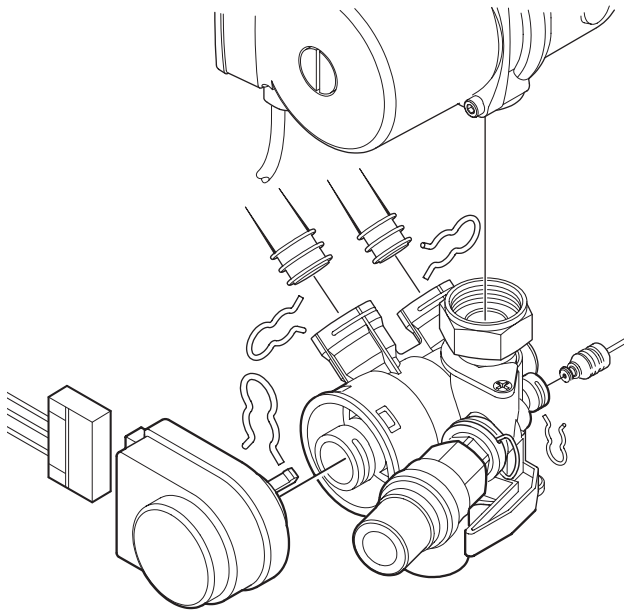

Fig. 64
- Unplug connector from 3-way valve motor. Refer to fig. 64.
- ▶ Unplug connector from 3-way valve motor. Refer to fig. 64.